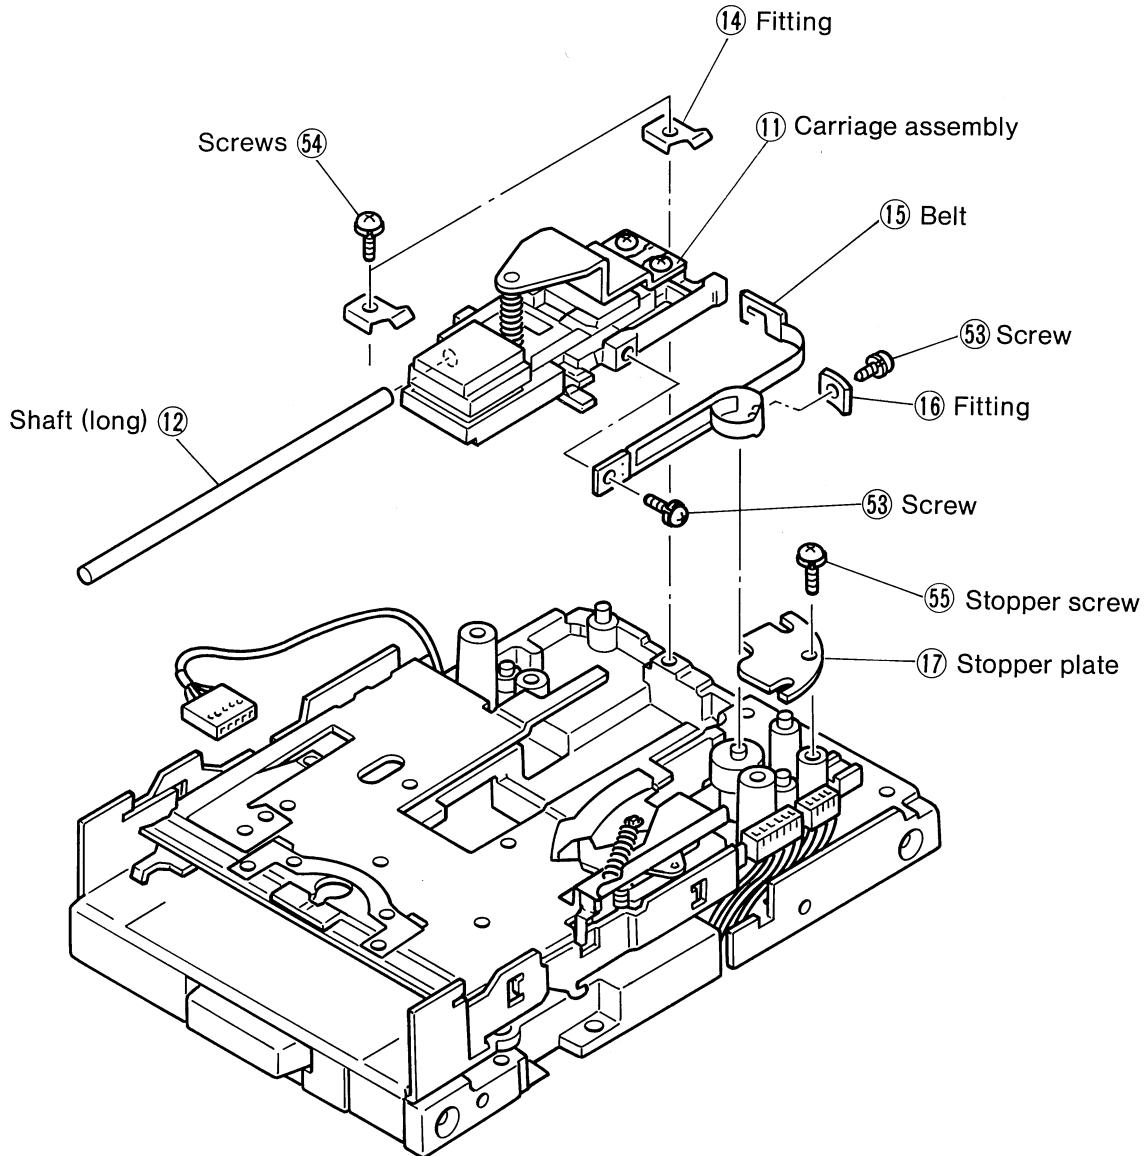

Figure 3-4. Carriage Assembly
- (3) Remove the two screws labeled ⑤4 , then remove the guide plate B assembly ②2 together with the M carriage ②0 .
- (4) Remove the damper assembly ②1 and E lever ⑯9 .
- (5) Before removing the guide plate A ⑩ from the frame, remove the M carriage assembly ②0 (see Figure 3-4).
- (6) When **reassembling**, insert the E lever into the axis guide on the frame.
- (7) Set the E lever with the lever pushed in 5mm from the front panel.
- (8) Set the damper assembly into the E lever after pulling out the damper assembly so that its extended length is 20mm.